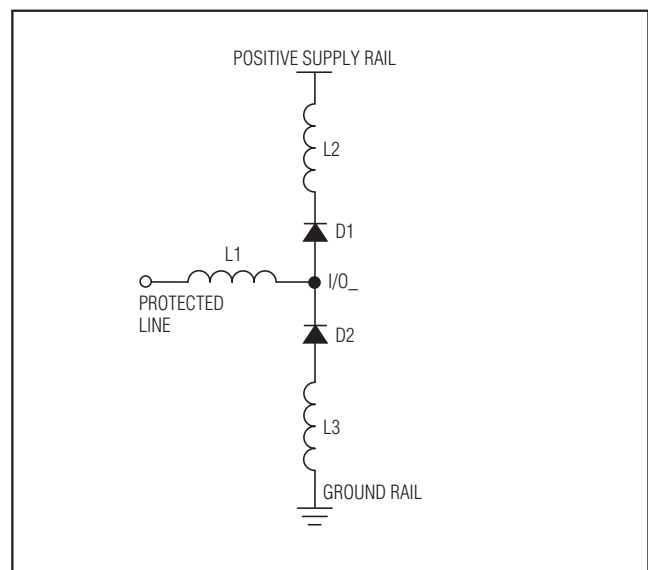

Figure 1. Parasitic Series Inductance
**Note 3:** Idealized clamp voltages ( $L1 = L2 = L3 = 0$ ) (Figure 1 ); see the *Applications Information* section for more information.
In reality, the effect of the parasitic series inductance on the lines must also be considered (Figure 1).